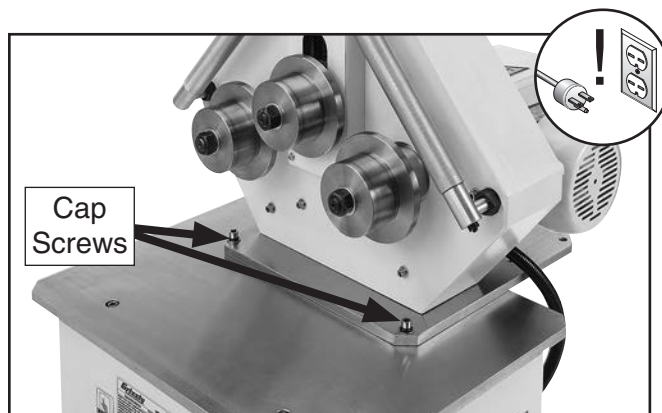

Figure 20. Location of cap screws that secure headstock in vertical position.
2. Remove two cap screws shown in **Figure 20**.